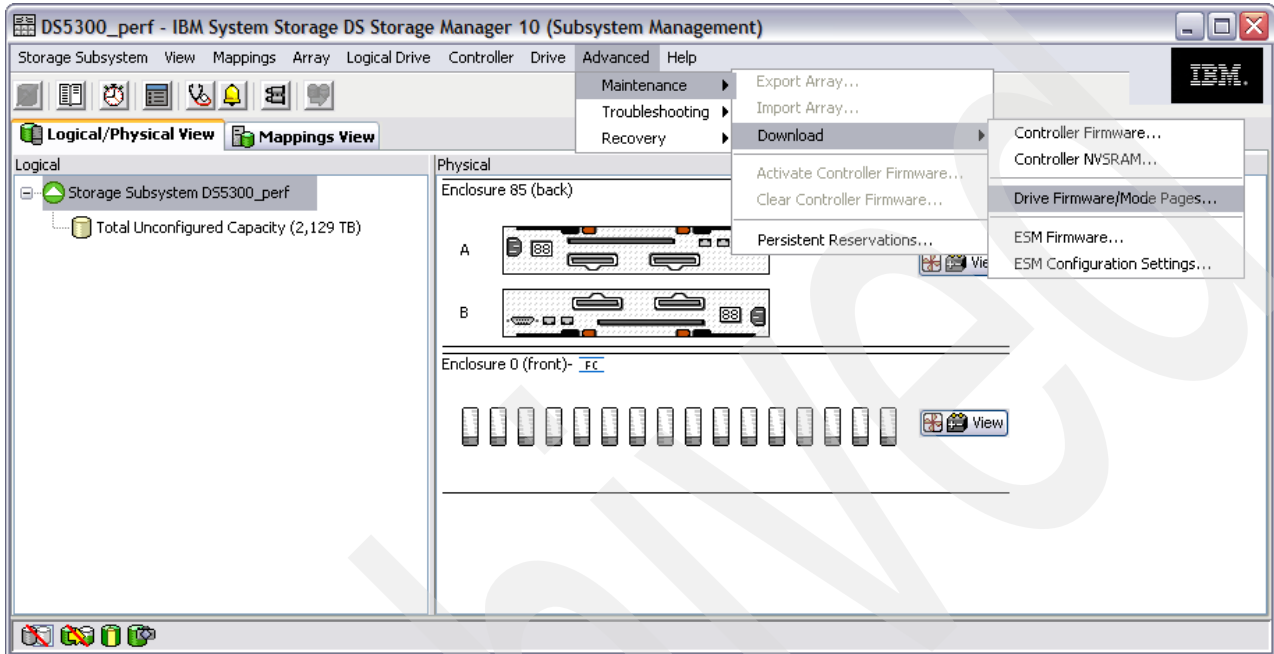

Figure 7-21 Subsystem Management window: Drive firmware update
1. To start the hard disk drives firmware update process, select **Advanced** → **Maintenance** → **Download** → **Drive Firmware/Mode Pages**, as shown in Figure 7-21.